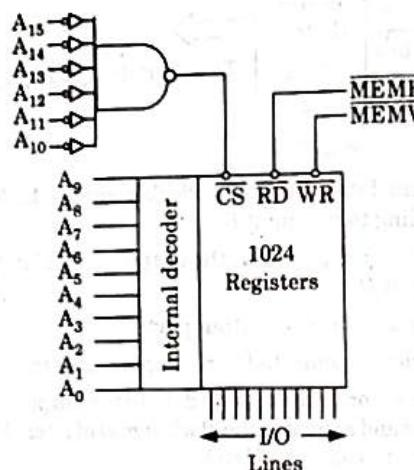

Fig. 1.9.1. Memory address range 1024 bytes of memory.
1. The memory chip has 1024 registers therefore 10 address line ($A_9 - A_0$) are required to identify the registers. The remaining six address lines ($A_{15} - A_{10}$) of the microprocessor are used for the chip select (CS) signal.
2. In Fig. 1.9.1, the memory chip is enabled when the address lines $A_{15} - A_{10}$ are at logic 0. The address lines $A_9 - A_0$ can assume any address of the 1024 registers, starting from all 0's to all 1's.
4. The memory addresses of the 1 K chip in Fig. 1.9.1 can be changed to any other location by changing the hardware of the (\overline{CS}) line. For example, if A_{15} is connected to the NAND gate without an inverter, the memory addresses will range from 8000 H to 83FF H.